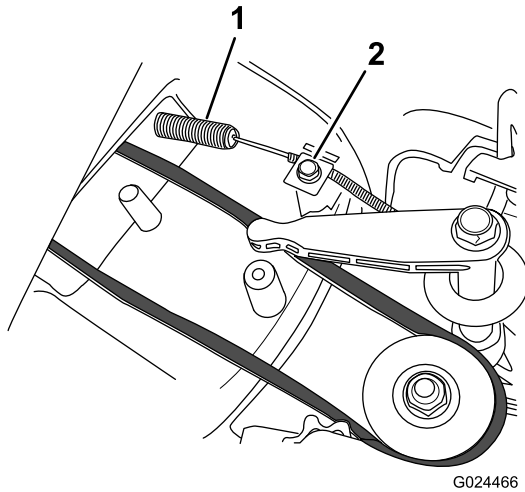

Figure 33
2. Install the new blade-brake cable, but do not tighten the cable clamp on the top of the mower housing (Figure 33).